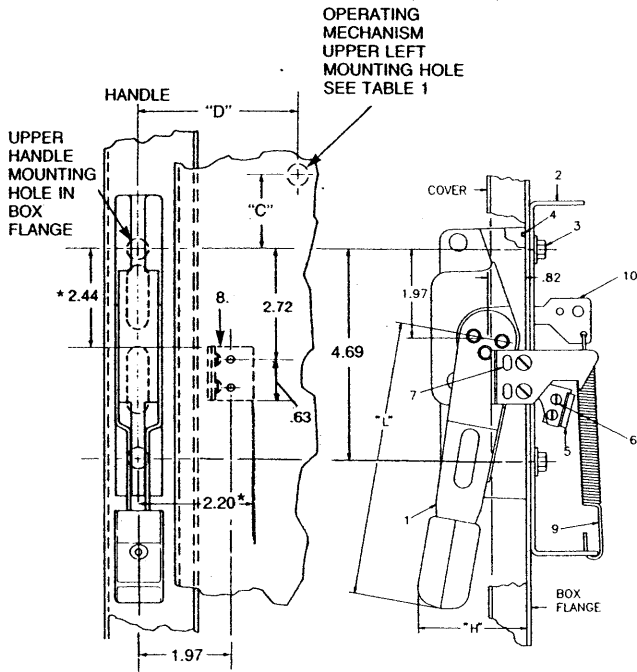

Figure 2. Vertical location of upper left operating mechanism mounting location relative to handle upper mounting hole.
1. Referring to Figure 1 or Figure 2 and Table 1, determine location of handle on right or left flange of enclosure.